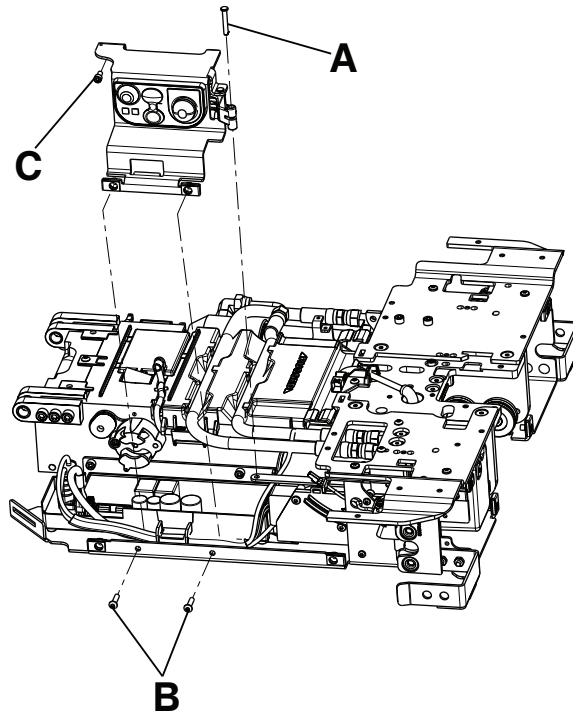

Figure 15 – Manual release button assembly
4. Remove the slic pin (A) from the switch/bracket assembly (Figure 15). Save the pin.
5. Using a T25 Torx driver, remove the two button head cap screws (B) that secure the manual release button bracket to the trolley frame (Figure 15). Save the screws.
6. Using a 5/32" hex wrench, loosen (do not remove) the socket head cap screw (C) that secures the manual release button bracket to the trolley frame (Figure 15).